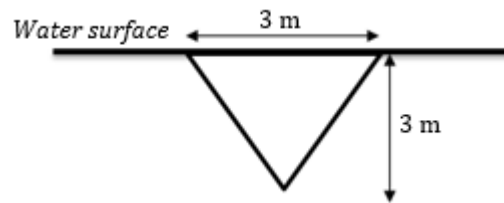

Figure 1
1. An isosceles triangular plate of base 3 metres and altitude 3 metres is immersed vertically in water as shown in figure 1. Determine the total pressure. (Ans: 44145 N)